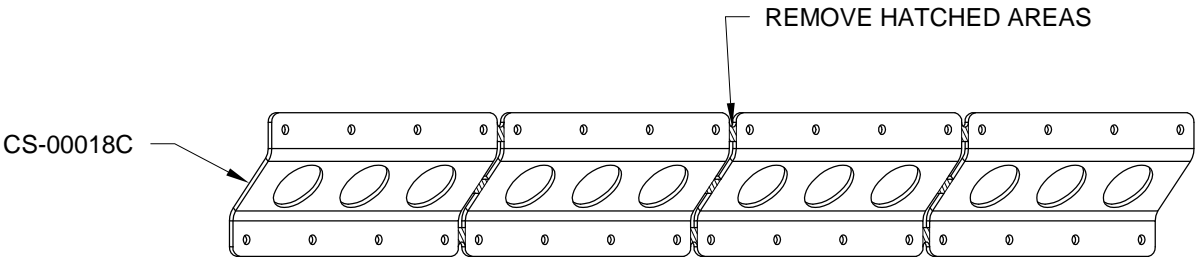

FIGURE 3: BRAKE PEDAL Z-CHANNELS
Step 3: Separate the eight CS-00018C Brake Pedal Z-Channels. See Figure 3.